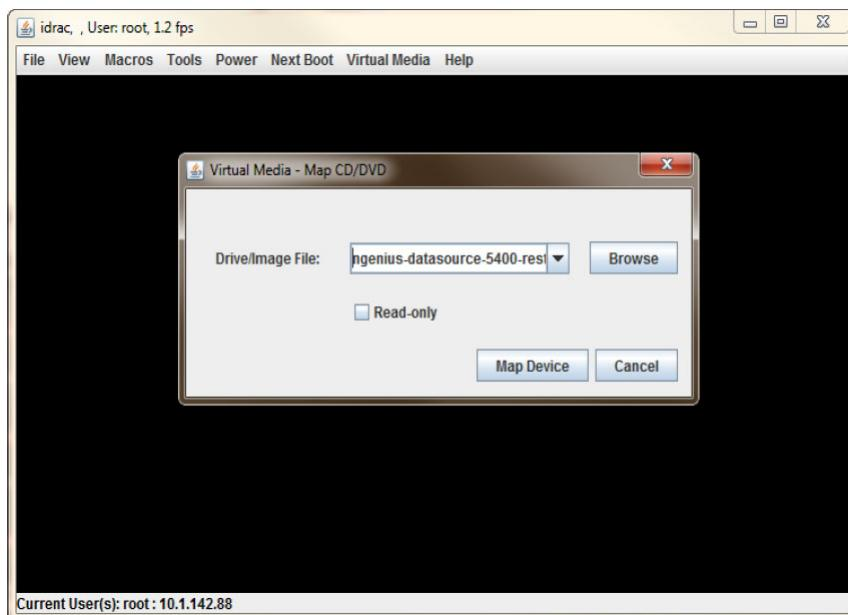

Figure B-10 Mapping Virtual Media to PFS Fabric Manager Server in iDRAC8
- If you are using an ISO image, click the **Browse** button (iDRAC8, Figure B-10) and use the navigation dialog to locate and **Open** the ISO located on your client system.